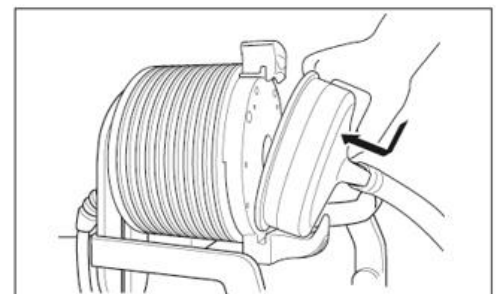

Figure 4
- ② Insert the rim of the centrifugal pump into the fixed hook of the drive motor (Figure 4).